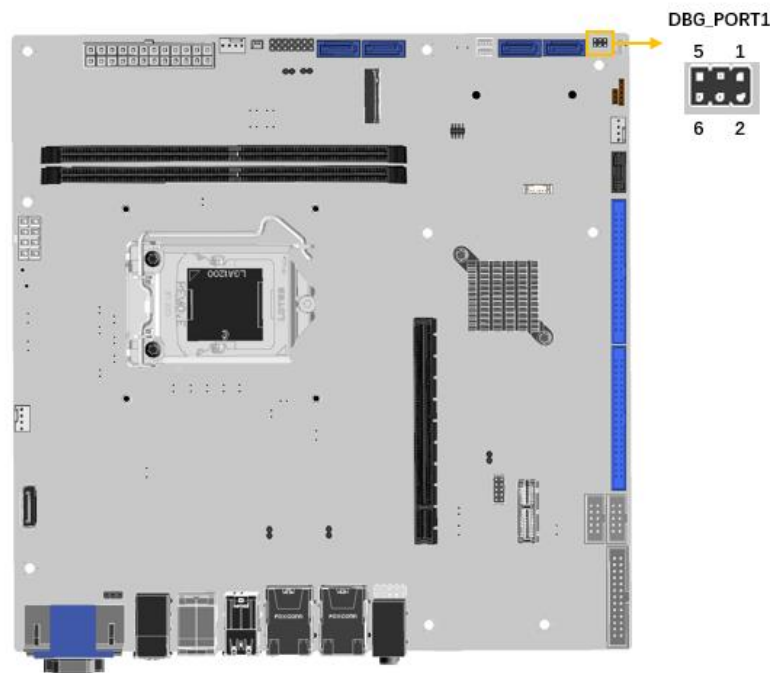

Figure 3-26: Debug Port Connector Location
- CN Location:** See **Figure 3-26**